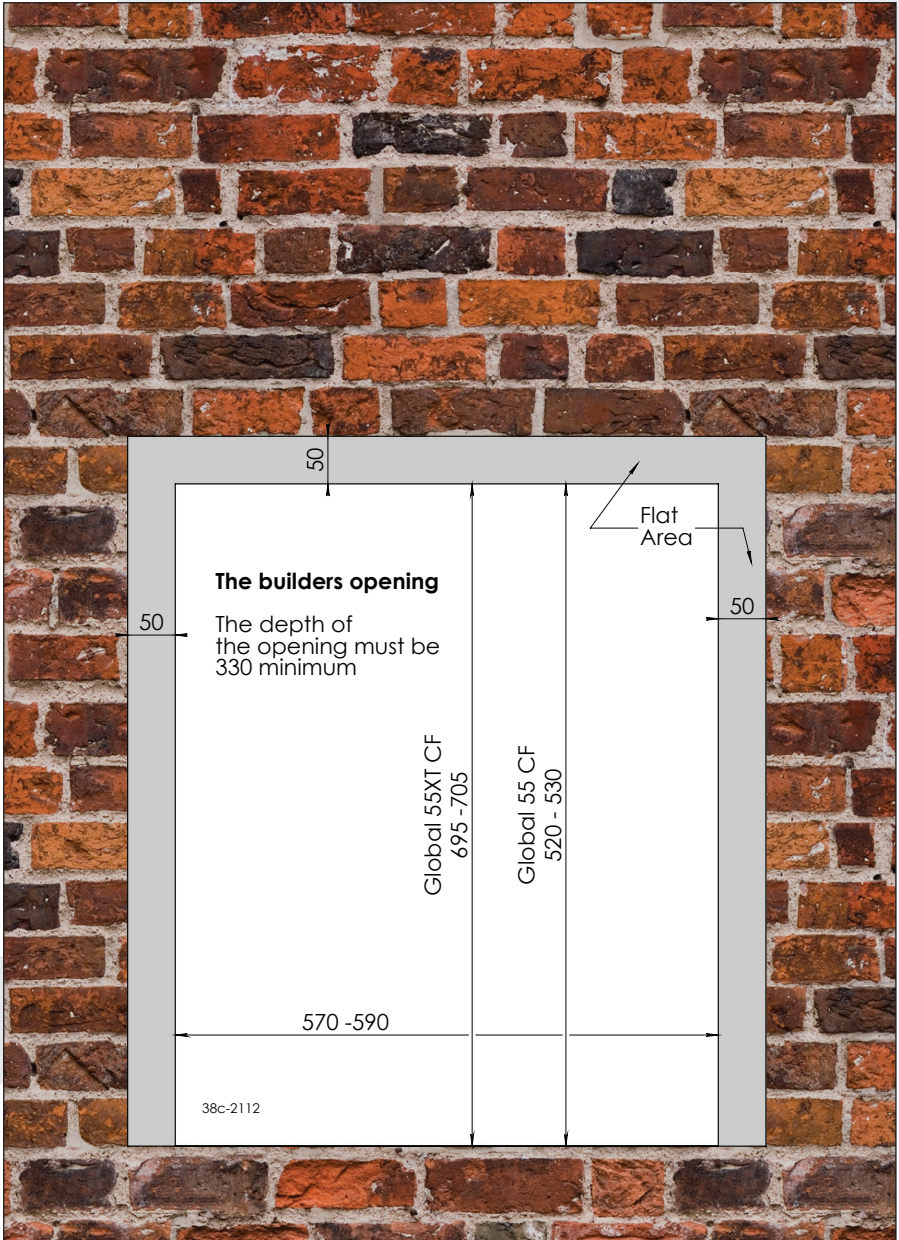

Fig. 1
- Determine the location of the appliance; see fig. 1 for the dimensions of the builder's opening.
Builders Opening Requirements (fig. 1)